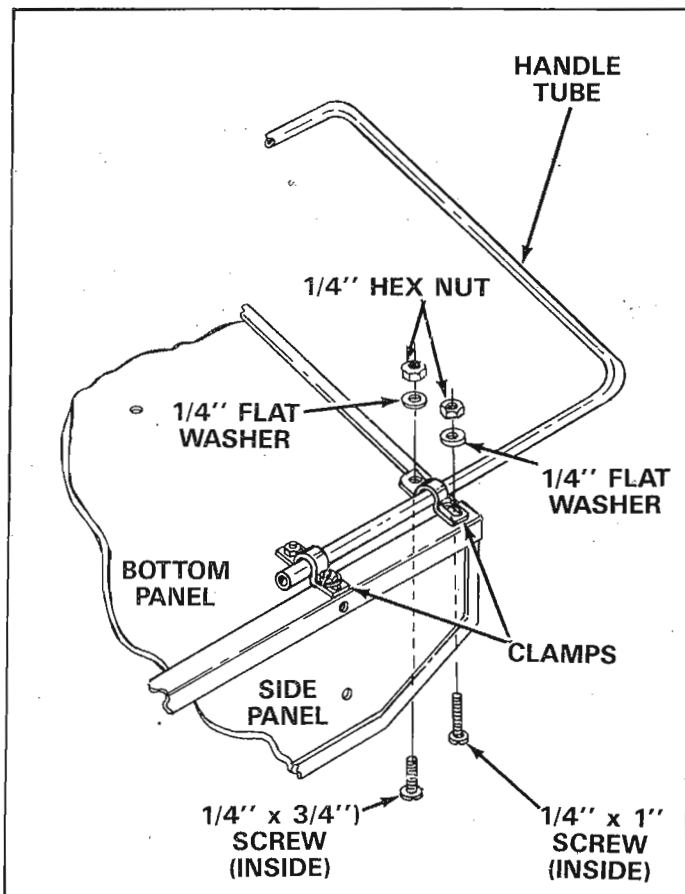

FIGURE 9.
16. Turn the cart upside down. Place the handle tube on bottom of cart as shown in figure 9. Place the four clamps over handle tube **with the longer leg of clamp to the outside edge of cart.** See figure 9.
The length of the handle tube can be adjusted by sliding in or out before tightening the four clamps. See figure 9.